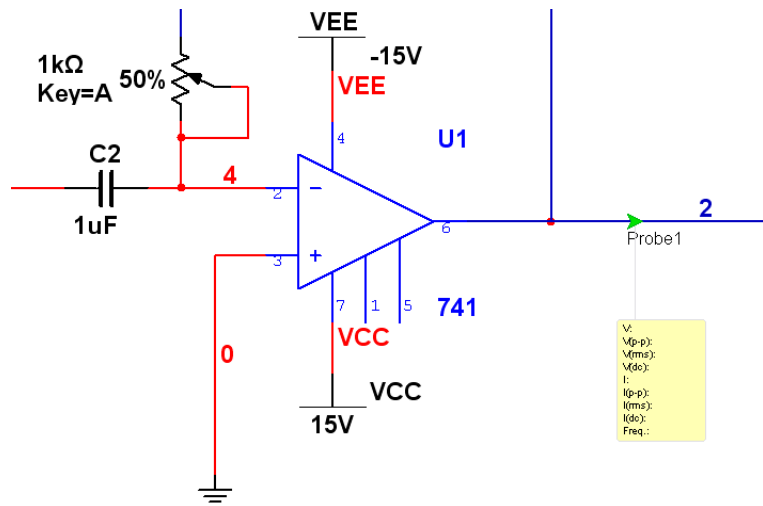

Figure E2-17. Measurement Probe at bandpass filter output
2. The measurement probe will now be ghosted to your mouse. Left-click the measurement probe to the output of the filter (as seen in Figure E2-17).